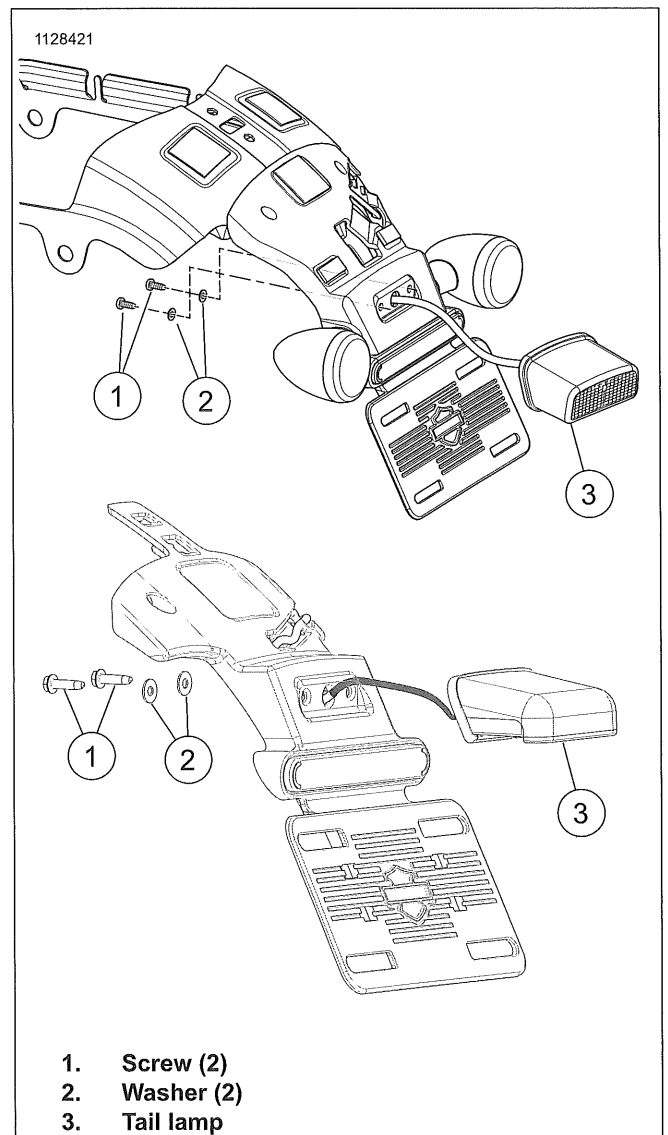

Figure 7-96. LED Center Mount
- See Figure 7-96. Remove screws (1) and washers (2).
- Remove tail lamp (3).
1. See Figure 7-96. Install tail lamp (3).
2. Install screws (1) and washers (2). Tighten.
5. See Figure 7-96. Connect pins to connector (3). See electrical diagnostic manual.
6. Connect connector (3).